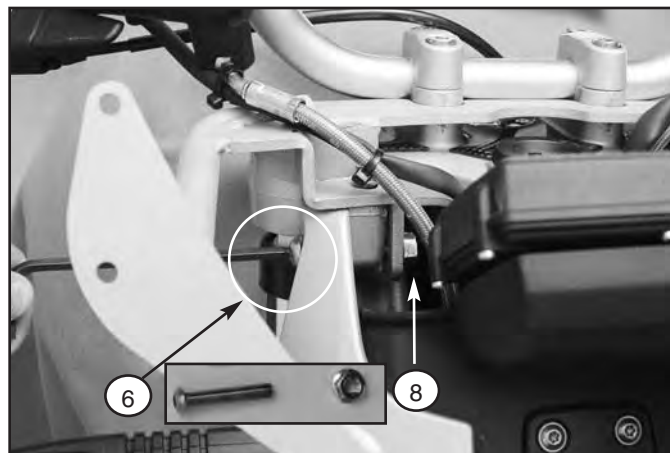

Figure 5
5. From the outside of the motorcycle, install the two M8 x 45 screws (6) and nuts (8). **Do not fully tighten. (5mm Allen Wrench and 13mm Combination Wrench) Figure 5**